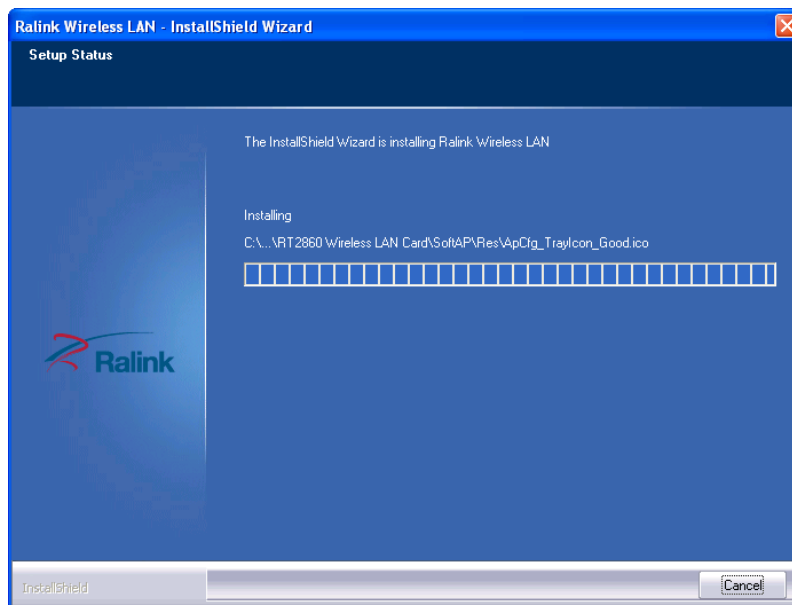

Figure 3-5: Setup Status
Step 11: The **Setup Status** screen in **Figure 3-5** appears and displays the progress of the installation.